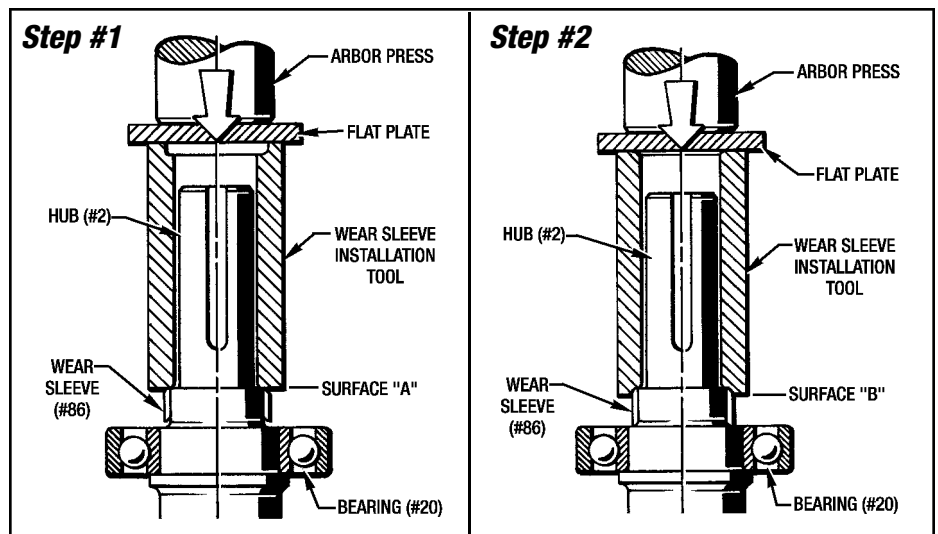

Figure 9.8 - Installing Wear Sleeve (#86)
- Install the Wear Sleeve (#86) on to the Hub (#2) with an arbor press and the appropriate Wear Sleeve Assembly Tool as shown in Figure 9.8.